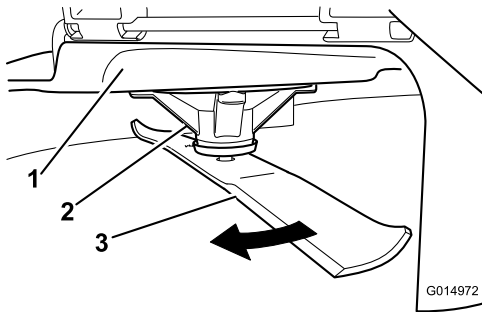

Figure 87
2. While wearing thickly padded gloves, or other adequate hand protection, slowly rotate the blade into a position that allows you to measure the distance between the cutting edge and the level surface the machine is on (Figure 87).